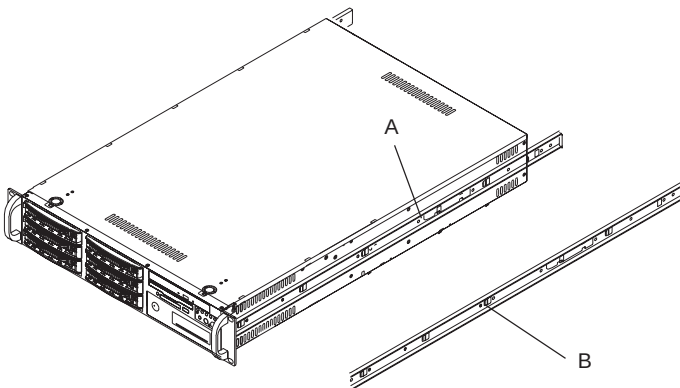
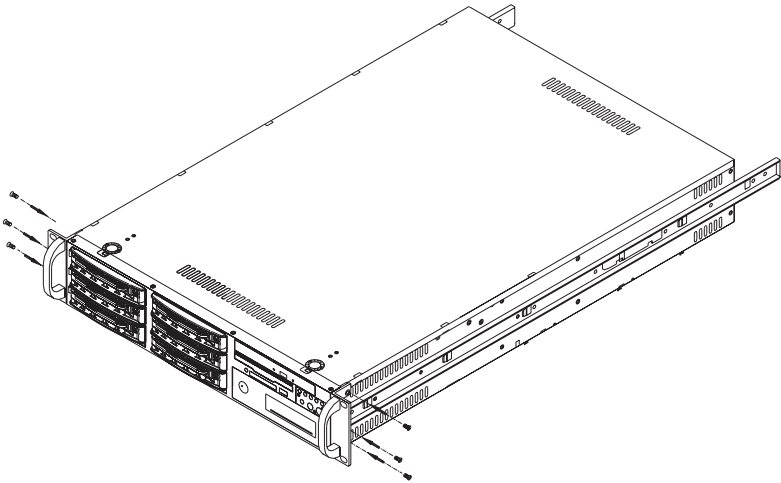

Figure 2-1. Identifying the Sections of the Rack Rails
Figure 2-2. Installing Chassis Rails
You should have received two rack rail assemblies with the SuperServer 6022C. Each of these assemblies consist of three sections: an inner fixed chassis rail that secures to the 6022C (A) and an outer fixed rack rail that secures directly to the rack itself (B). A sliding rail guide sandwiched between the two should remain attached to the fixed rack rail. (See Figure 2-1.) The A and B rails must be detached from each other to install.
Remove the handles on the 6022C chassis (see Figure 2-1) and position the fixed chassis rail sections along the side of the 6022C chassis making sure the two screw holes line up. Note that these two rails are left/right specific. Slide the rails on to the hooks on both sides of the chassis. Screw the rail securely to the side of the chassis, and then reinstall the chassis handle (see Figure 2-2). Repeat this procedure for the other rail on the other side of the chassis. You will also need to attach the rail brackets when installing into a telco rack.